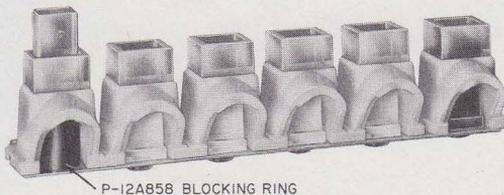

Fig. 4—P-12A858 Blocking Ring, Installed
2.04 Unused buttons, either round or square style, may be blocked with a P-12A858 blocking ring. Insert as shown in Fig. 4.